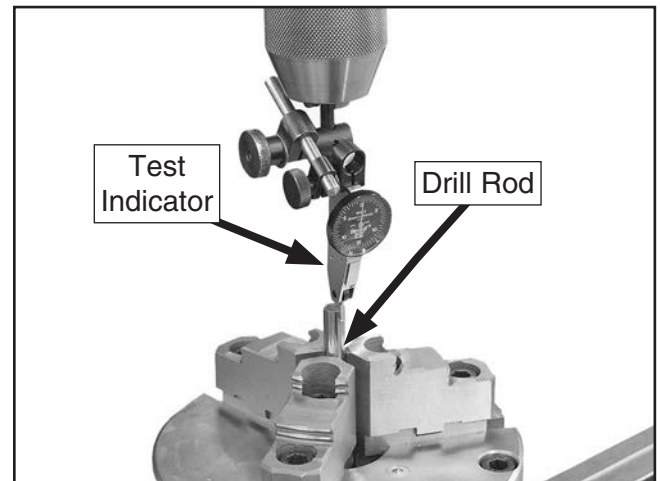

Figure 17. Example of horizontally aligning chuck.
1. Mount a precision mandrel or quality drill rod in chuck, as shown in **Figure 17**.
2. Mount test indicator in mill spindle, then indicate outside of precision mandrel or drill rod, as shown in **Figure 17**.